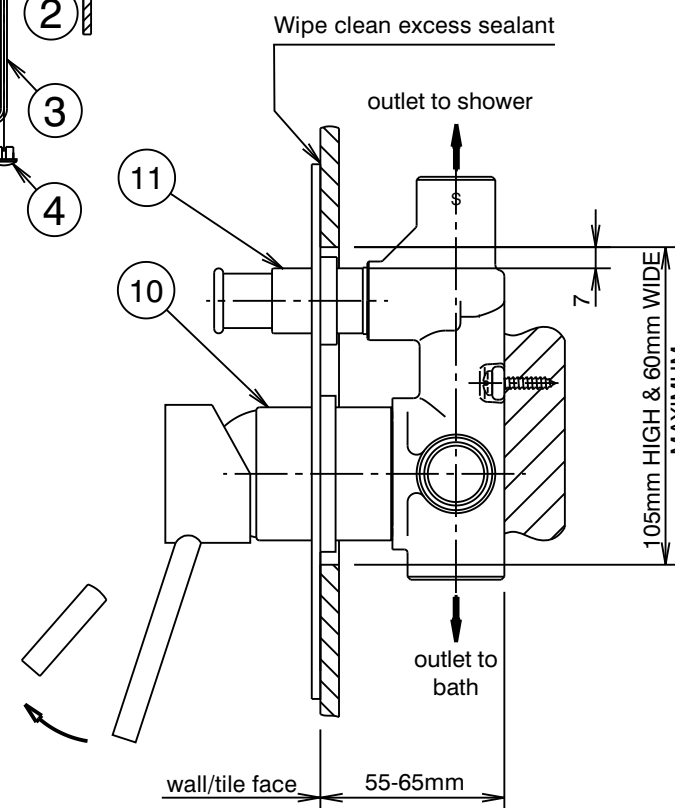

Fig. 1
Installation (Fig. 1 & 2)
- * Mixer body (10) must be installed square to wall/tile face, to ensure cover plate (5) sits flush.
- 2) Apply a suitable clear sealant to the back edge of the cover plate (5), leaving an unsealed section at the bottom for drainage. Carefully slide the cover plate (5) onto the mixer body (10) and the diverter sleeve (11), ensuring that the 'O' rings (6) remain in their grooves. Push the cover plate firmly against the wall/tile face, making sure that the top edge is horizontal to align with the tile joints. Wipe clean any excess sealant from the chrome surfaces & the wall/tile face (See Fig. 1).
- 3) Fit handle (1) taking care that it is pushed fully onto cartridge stem, then tighten grub screw (2) using the 2.5mm allen key (3). Fit plug (4), taking care not to damage the decorative finish.